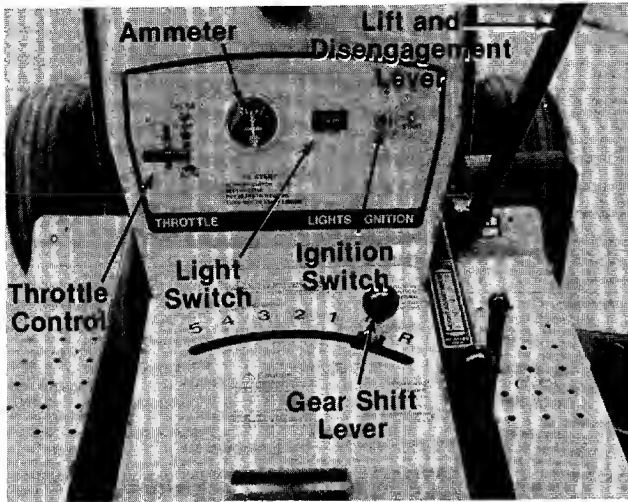

FIGURE 16.
The throttle control is used to regulate the engine speed and to activate the choke on the engine. To get maximum efficiency from cutting, the throttle should be in the FAST position when operating the mower. Pushing the throttle all the way forward past FAST, will choke the engine. See figure 16.
The gear shift lever is used to shift into one of five Forward Gears, "NEUTRAL" or "REVERSE." See figure 16.
Turn the key to the "START" position to start the engine. When the engine is running, let the key return to the "ON" position. To stop the engine, turn the key to the left to the "OFF" position and remove it to prevent accidental starting. See figure 16.
Push the light switch to turn on the lights. The lights will only operate when the engine is running. See figure 16.
The ammeter registers the rate of battery charge or discharge. The ammeter should register on the plus side (+) when the engine is running in the fast position until the battery is completely charged. With a fully charged battery or with the engine idling, the ammeter will not show a charge. See figure 16.
The lift and disengagement lever is used to raise and lower the cutting deck. Pulling it all the way back and locking it disengages the blades. The lift and disengagement lever **must** be in the disengaged position when starting the engine and when shifting into reverse. See figure 16.
5. Set the throttle control in the CHOKE position. See figure 16.
6. Turn the Ignition key to the "START" position. When the engine is running, let the key return to the "ON" position. See figure 16.